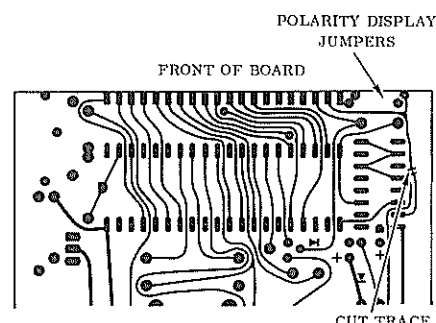

Figure 5. Printed Circuit Top View
3. **Polarity Display.** The polarity may be blanked by cutting two PC traces and adding two jumpers on the PC board. Figure 5 shows the location of the two jumpers and one of the traces to be cut. Figure 6 shows the other trace to be cut. The traces to be cut contain two parallel lines about one sixteenth inch long. For instructions on removing the meter from the case, refer to the paragraph on Range Modification.